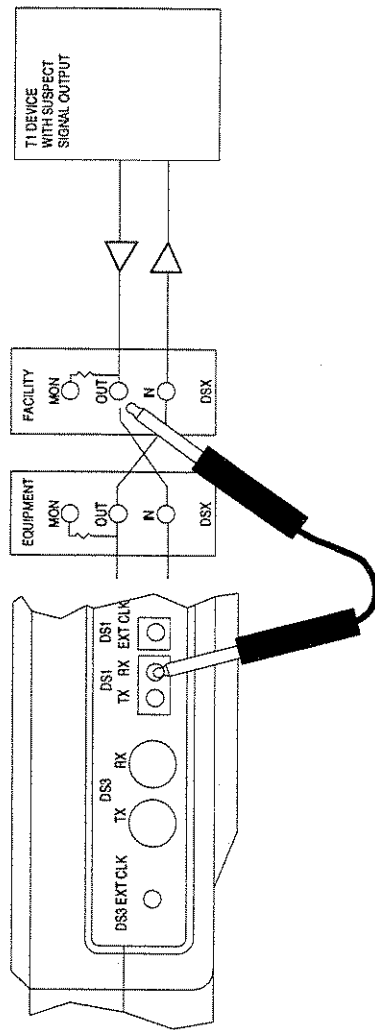

Figure 1.7.A Measuring Signal Level
- 3) Connect the test set to the circuit as shown in Figure 1.7.A.